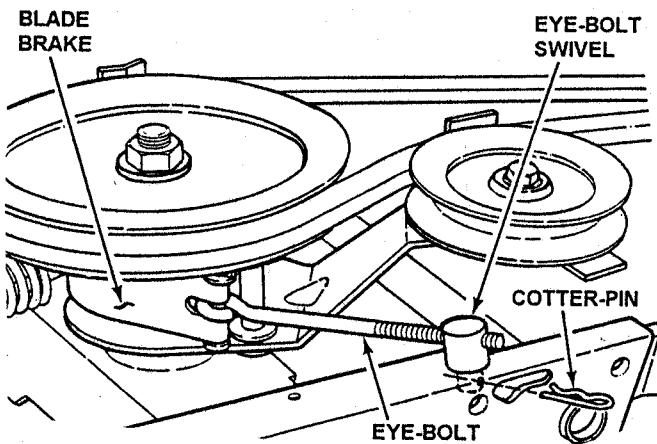

FIGURE 4.5
3. Rotate swivel clockwise several complete rotations. See Figure 4.5.